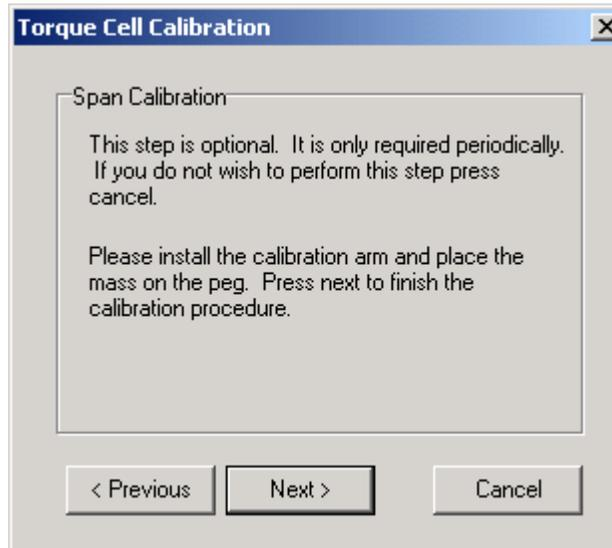

Figure A-6: Span Calibration Window
- 8 From the Span Calibration window (Figure A-6), click **Next** to continue.